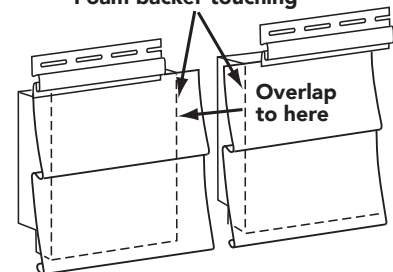

Figure 37
- When overlapping insulated vinyl siding, no gap is needed between the foam at the ends of the panels. Be sure to butt each piece of foam together (Figure 37), unless installing in cold weather (always consult the manufacturer's instructions).